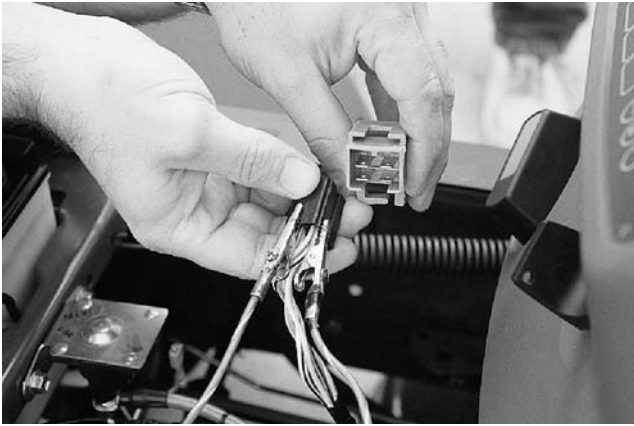

Figure 3-29.
19. If the unit does not crank, make sure the clutch/brake pedal switch is fully depressed. Remove the switch and jump a wire between the two orange terminals. See Figure 3-29.